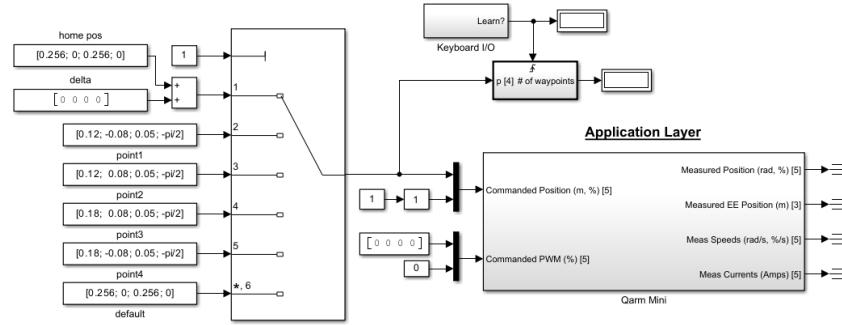

Figure 2. Teach Pendant (Learn)
3. The multiport switch in Figure 2, takes in x, y, z positions (in meters, relative to the base) and γ (gamma), the end-effector angle, as inputs.